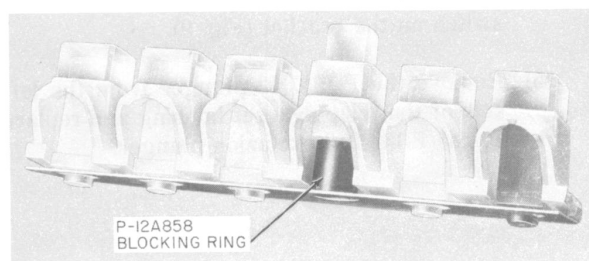

Fig. 8—P-12A858 Blocking Ring, Installed
3.02 Unused buttons may be blocked with a P-12A858 blocking ring. Insert as shown in Fig. 8.